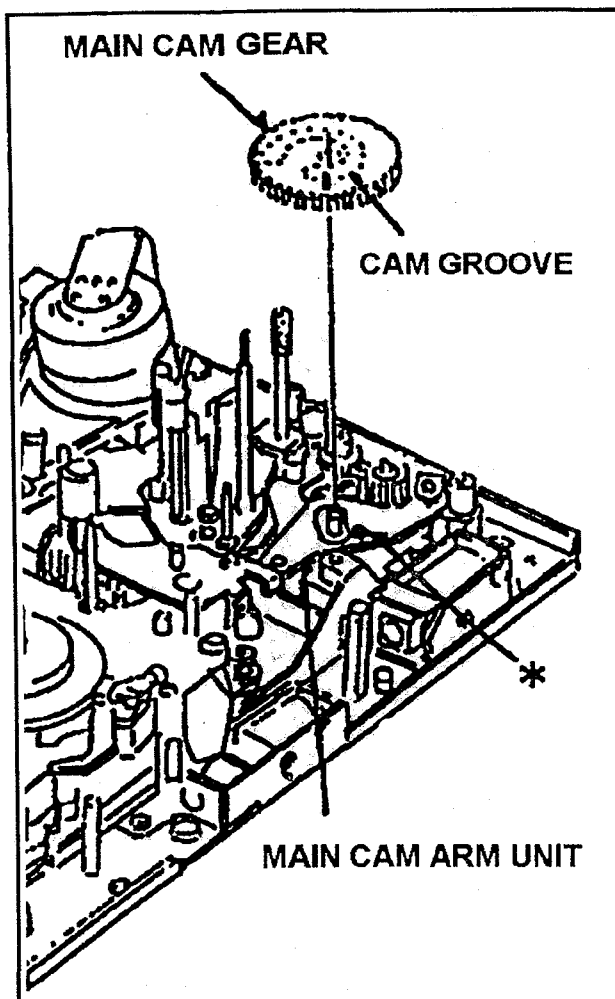

Fig. M13
2. Remove the Pinch Solenoid Unit and Loading Motor Neutral Unit (Refer to item 4 to 6).
3. Remove the Main Cam Gear as shown in Figure M13.
1. Install the Main Cam Gear so that the pin of Main Cam Arm Unit (※) matches the groove position of Main Cam Gear as shown in Figure M13.